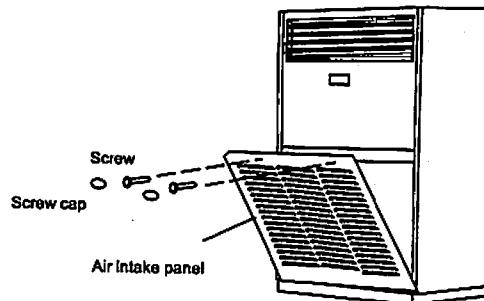

Fig. 3-5
- Put down the air intake panel, before electric connection, see Fig. 3-5: